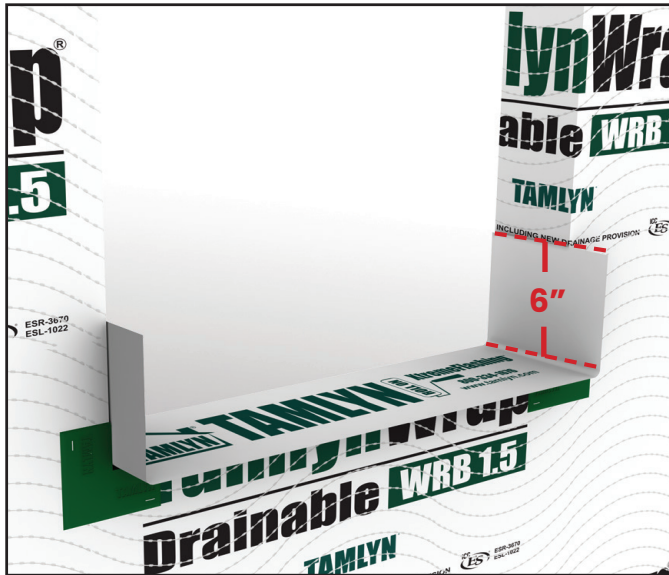

FIG 5:
- Install a piece of **XtremeFlashing™ Tape** to fully cover the sill and extend up jambs a min of **6"**. Flashing should extend to the inside edge of the rough opening as shown in **(FIG 5)**.